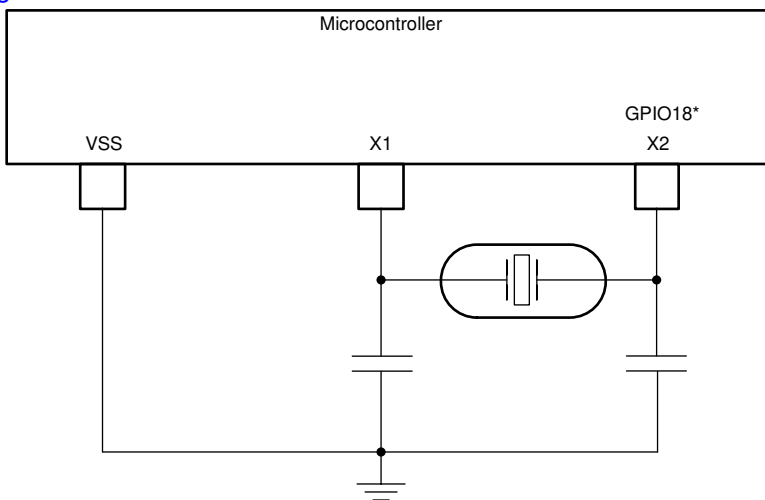

**Figure 7-18. External Crystal**
- An external crystal. The crystal should be connected across X1 and X2 with its load capacitors connected to VSS as shown in Figure 7-18.